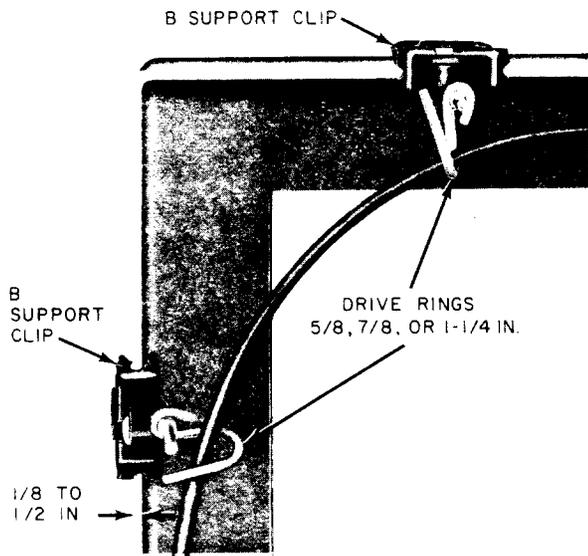

Fig. 26 — B Beam Clips
10.02 The B beam clip (Fig. 26) equipped with either a drive ring or the B, K, or M bridle ring is used to support wire runs on I beams, angle irons, etc, on beam thickness of 1/8 inch to 1/2 inch.